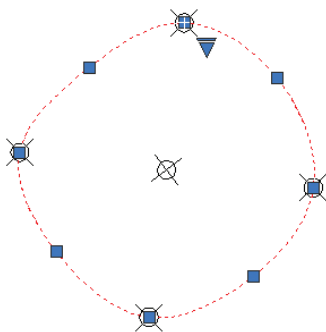

FIGURE 5.17 Adding additional fit points between the initial points
7. Repeat the previous step twice more, adding additional fit points between the bottom, left, and top points (see Figure 5.17).